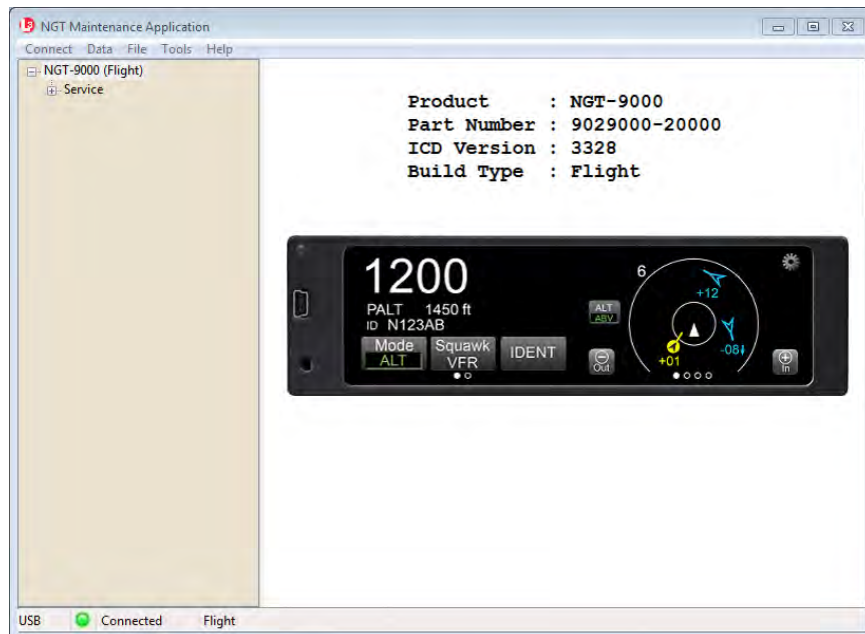

Figure 3-3: Lynx MAT – Main Screen
- d. Communication is established when the Lynx MAT left view panel changes from grey to tan and the message “Connected” is shown in the lower communication bar. See Figure 3-3.